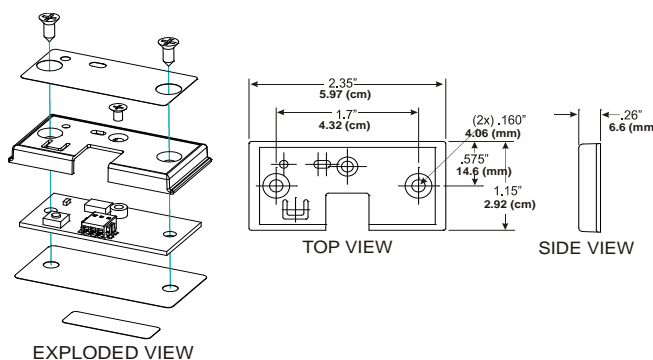

Figure 8 - Dewpoint Sensor Dimensions
**Figure 8** shows the mounting dimensions.